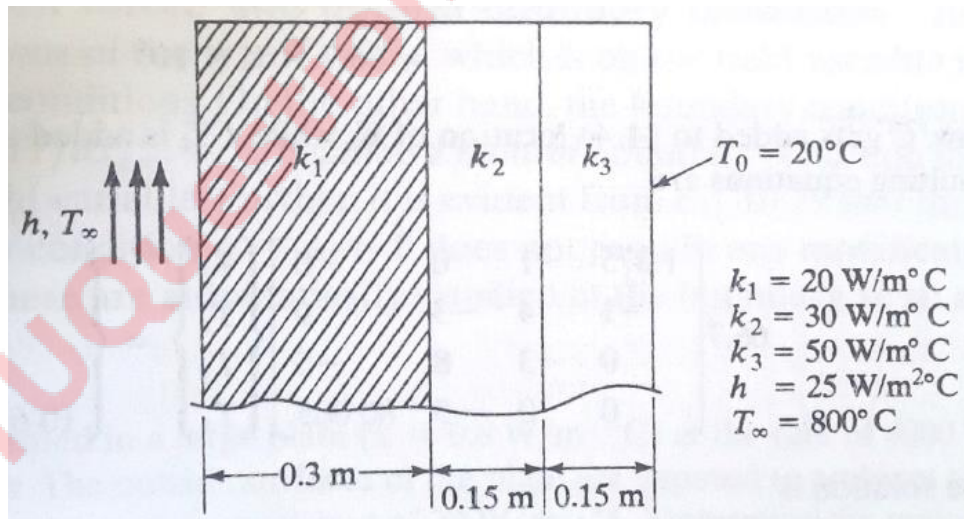

Figure 4
- Q.4 (a) A composite wall consist of three materials, as shown in Figure 4. The outer temperature is  $T_0 = 20^\circ\text{C}$ . Convection heat transfer takes place on the inner surface of the wall with  $T_\infty = 800^\circ\text{C}$  and  $h = \text{W/m}^2^\circ\text{C}$ . Determine the temperature distribution in the wall. 04